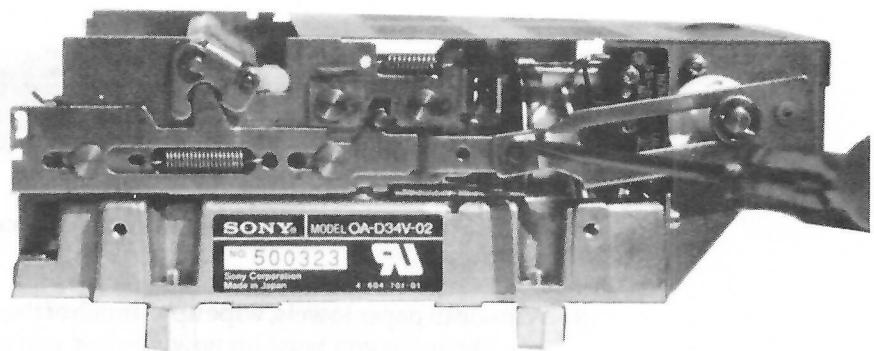

Figure 13-18 C-ring removal.
5. Use a small  $\frac{1}{8}$ -inch slotted screwdriver to remove the C-ring shown in Figure 13-18.